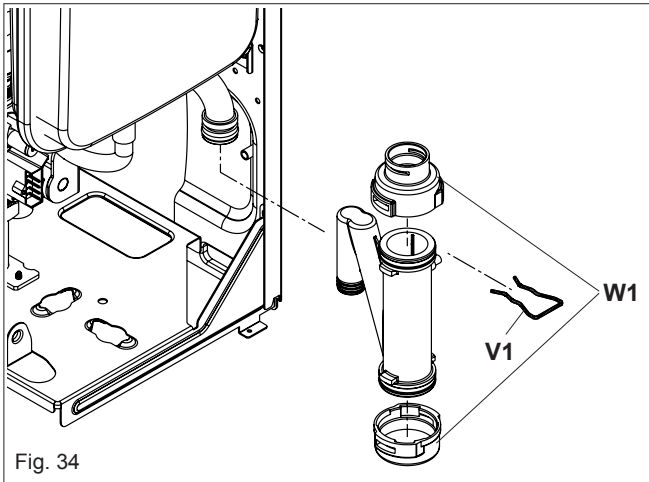

Fig. 34
6.19 CONDENSE TRAP REMOVAL (fig. 34)